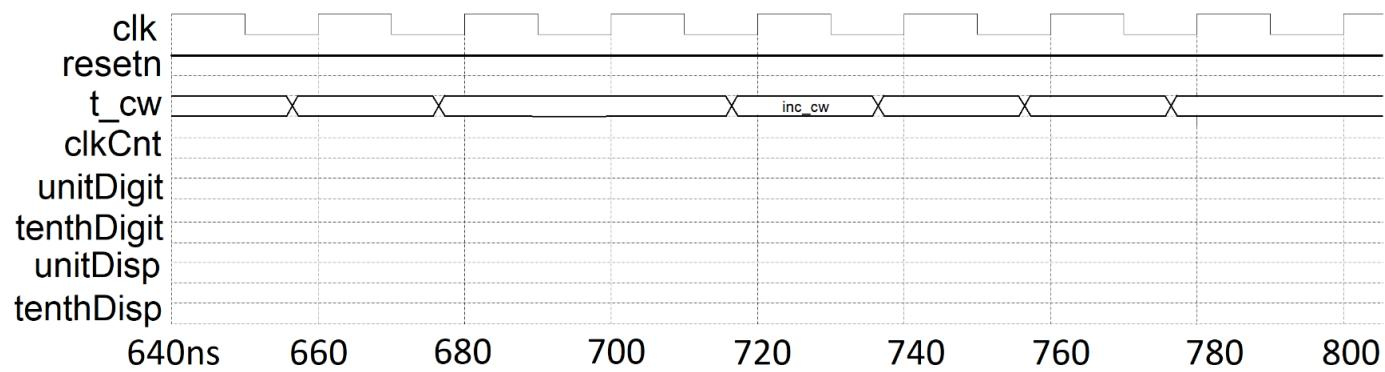

Figure 9.3: Complete the timing diagram using the control words found in the testbench.
- Complete timing diagram from Figure 9.3.